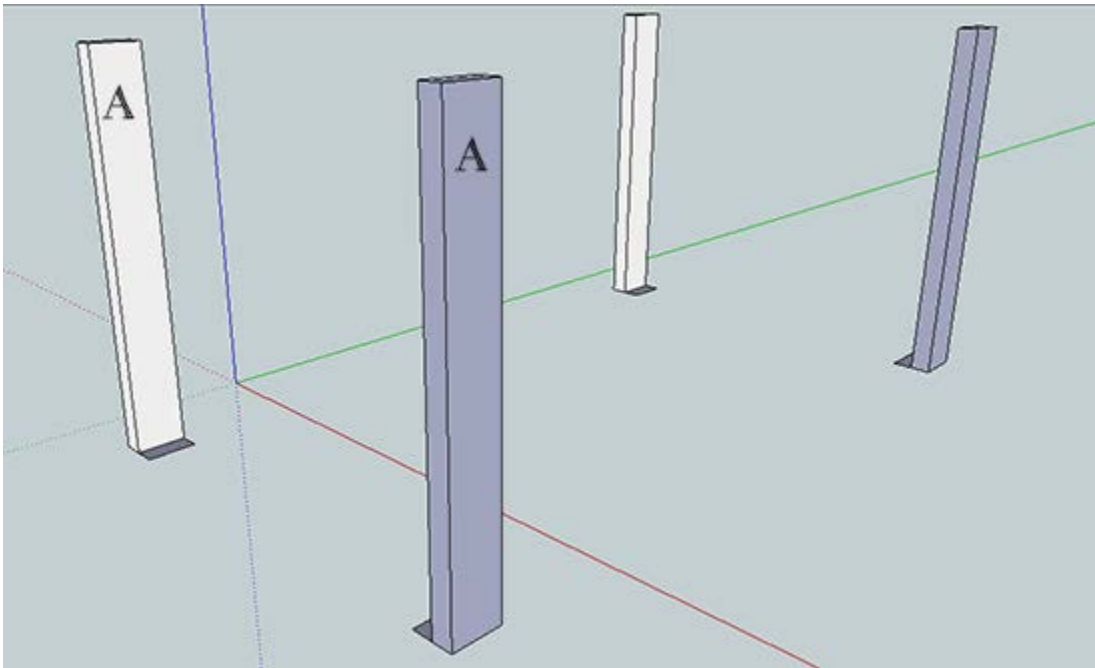
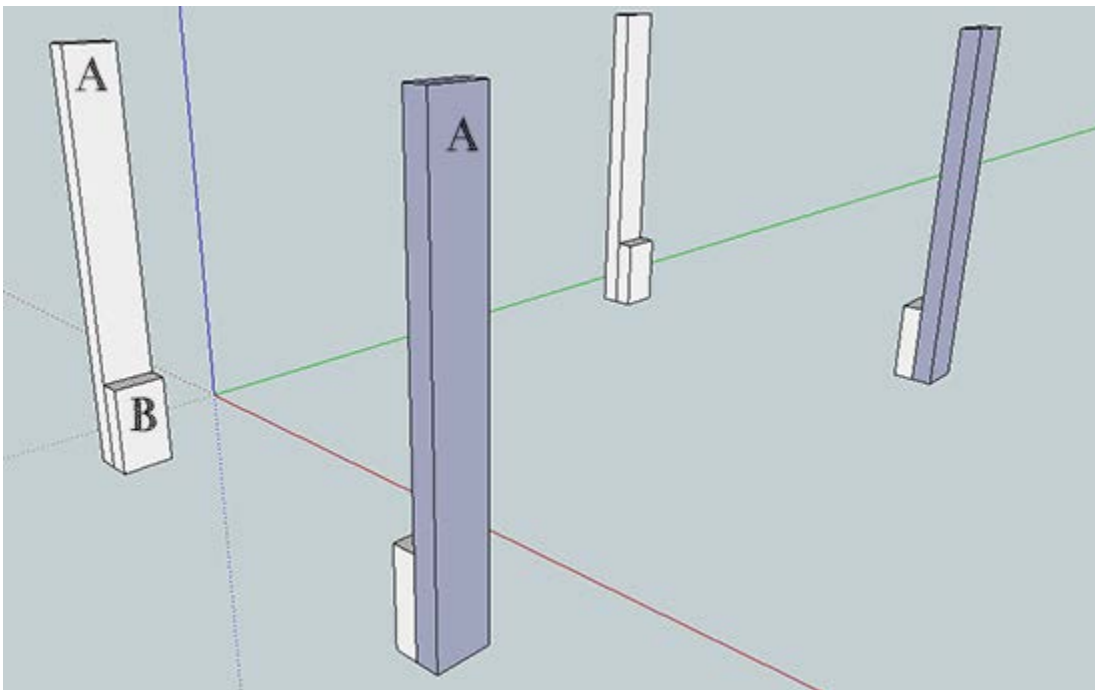

Figure 1: Legs
Figure 2: Legs with Bottom Shelf Support
3. The assembly will start with the legs (Figure 1). Glue and screw a 'B' board onto each 'A' board flushing up the ends (Figure 2).